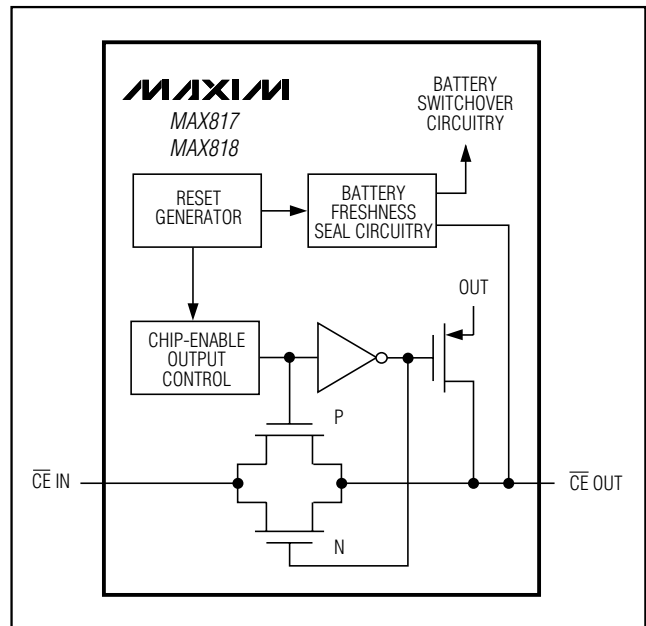

Figure 5. Chip-Enable Transmission Gate
Internal gating of the chip-enable (CE) signal prevents erroneous data from corrupting CMOS RAM in the event of an undervoltage condition. The MAX818 uses a series transmission gate from $\overline{CE IN}$ to $\overline{CE OUT}$ (Figure 5). During normal operation (reset not asserted), the CE transmission gate is enabled and passes all CE transitions. When reset is asserted, this path becomes disabled, preventing erroneous data from corrupting the CMOS RAM. The short CE propagation delay from $\overline{CE IN}$ to $\overline{CE OUT}$ enables the MAX818 to be used with most μP s. If $\overline{CE IN}$ is low when reset asserts, $\overline{CE OUT}$ remains low for typically 15 μs to permit the current write cycle to complete.
When the CE transmission gate is enabled, the impedance of \overline{CE} OUT is equivalent to a 40Ω resistor in series with the source driving \overline{CE} IN. In the disabled mode, the transmission gate is off and an active pull-up connects \overline{CE} OUT to OUT (Figure 5). This pull-up turns off when the transmission gate is enabled.